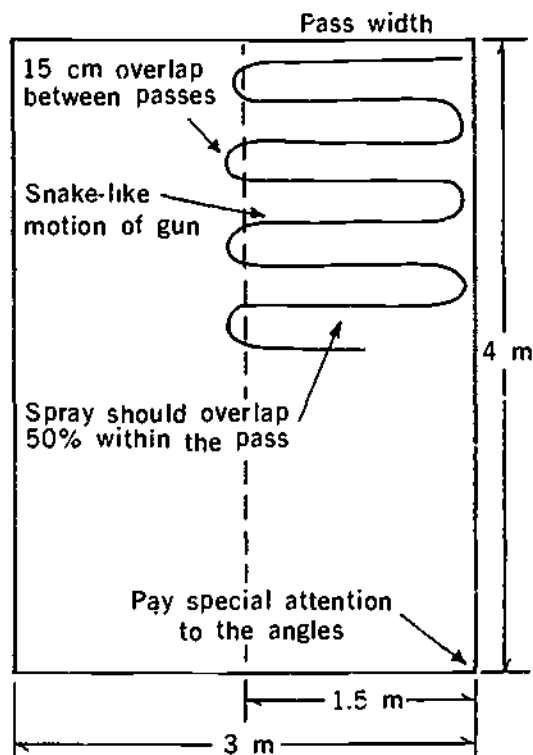

Figure 6-10
4. Once you have the proper distance from the surface, move the gun in a line parallel to the surface (Figure 6-10). Do not move the gun in a swinging motion because this means that the gun will be closer to the surface in the middle of the swing or arc than at either end of the swing. A swinging motion results in poor coverage at the beginning and end of passes.